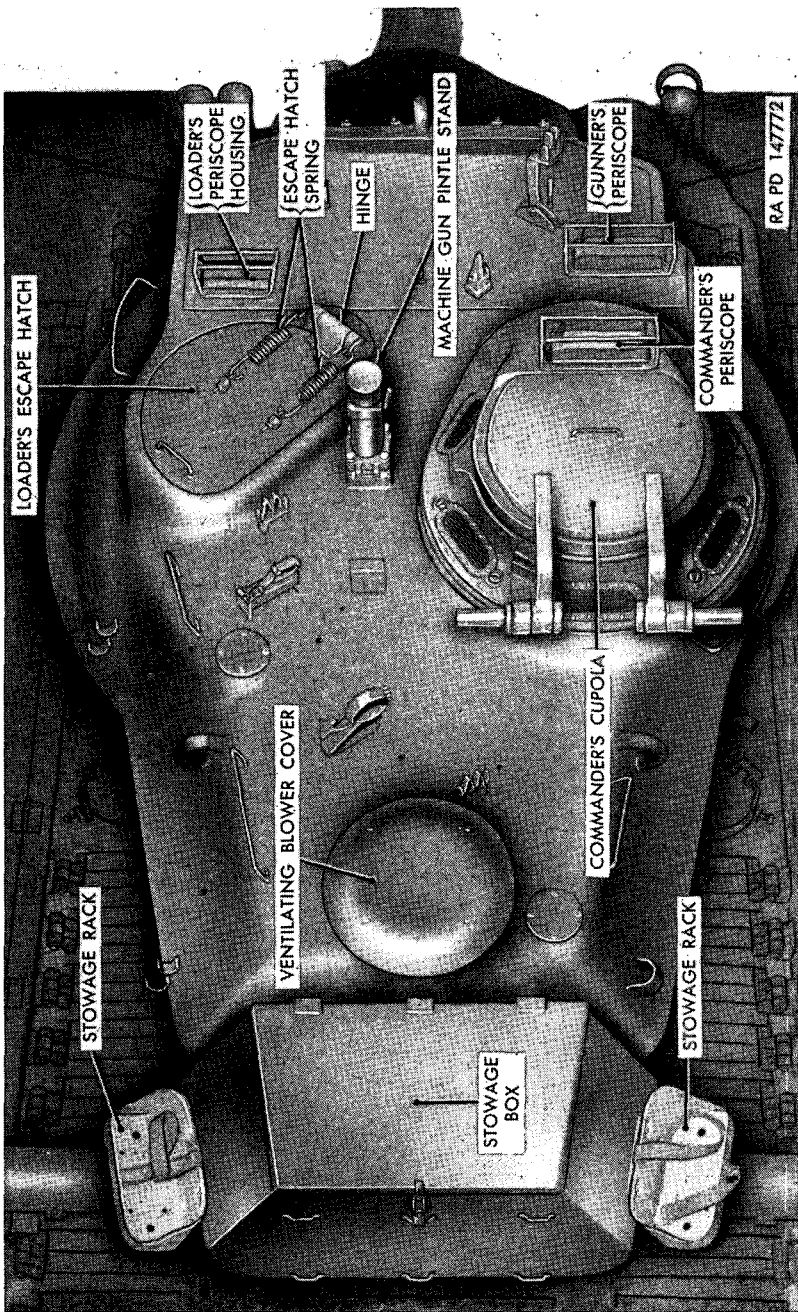

Figure 291. Turret—top view.
a. **GENERAL** (figs. 291, 292, 293, 294, and 295). The cast armor steel turret rotates on ball bearings in a turret race ring attached to the top of the hull. The weight of the gun is counterbalanced by a large hollow extension or bulge at the rear of the turret (fig. 292). The radio equipment, ventilating blower, and various other equipment are located or stowed in the interior of this bulge. The commander and gunner enter the turret through the door in the commander's cupola (fig. 37). The loader's escape hatch is to the left of the commander's cupola (fig. 291). A machine gun pintle stand (fig. 291) is located between the commander's cupola and loader's escape hatch. The gunner's seat (fig. 35), the commander's seat (fig. 36), and the
loader's seat (fig. 34) are all attached to the turret rim. Three periscope housings are provided (fig. 291). The commander's periscope housing is located on the turret roof in front of the commander's cupola. The loader's periscope housing is located in front of the loader's escape hatch. Ammunition ready racks are provided around the rim of the turret (fig. 34).
a. **REMOVAL**. Release tension on escape hatch springs (fig. 291) by loosening two nuts and remove springs. Remove escape hatch hinge taper pin from center of hinge. Pull escape hatch hinge pin out of hinge and remove loader's escape hatch assembly.
a. **REMOVAL**. Working inside the turret, remove six screws and washers securing bottom segment of periscope housing (fig. 66) to top segment of periscope housing and remove bottom segment. Working on top of the turret, remove top segment of periscope housing (fig. 291).
b. **INSTALLATION**. Position top segment of periscope housing to turret roof (fig. 291). Position bottom segment of periscope housing (fig. 66) to top segment, making sure dowel pins engage properly. Secure bottom segment to top segment with six screws and washers.
a. **OUTER TURRET STOWAGE BOX** (figs. 291 and 295).
- (1) *Removal.* Release latch on rear of stowage box and raise cover. Remove 10 nuts and washers securing stowage box to rear of turret and remove stowage box.
- (2) *Installation.* Position stowage box to rear of turret and secure with 10 nuts and washers. Close stowage box cover and secure latch.